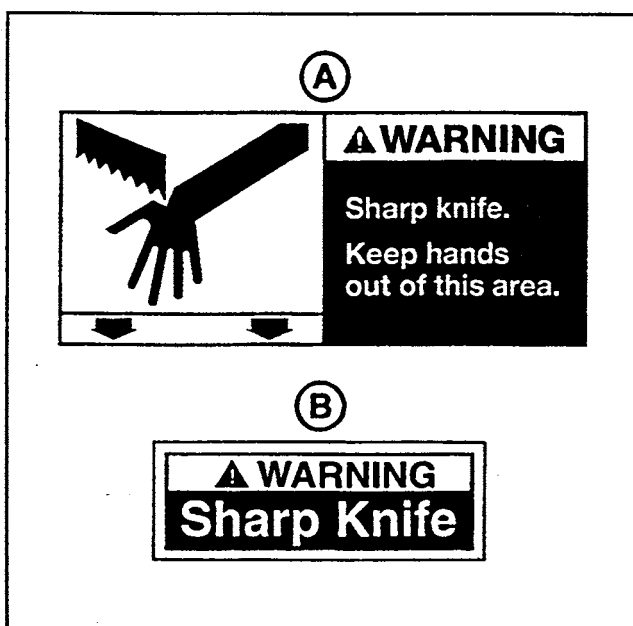

Figure 1-1 – Knife Warning Labels
The "Warning – Sharp Knife" label (A), shown in Figure 1-1, is attached to both sides of the upper frame at the location of the cut-off knife on the upper taping heads. The "Warning – Sharp Knife" label (B), shown in Figure 1-1, is attached to the orange cut-off knife guard on both taping heads. The labels warn operators and service personnel of the very sharp knife used to cut the tape at the end of the tape application.